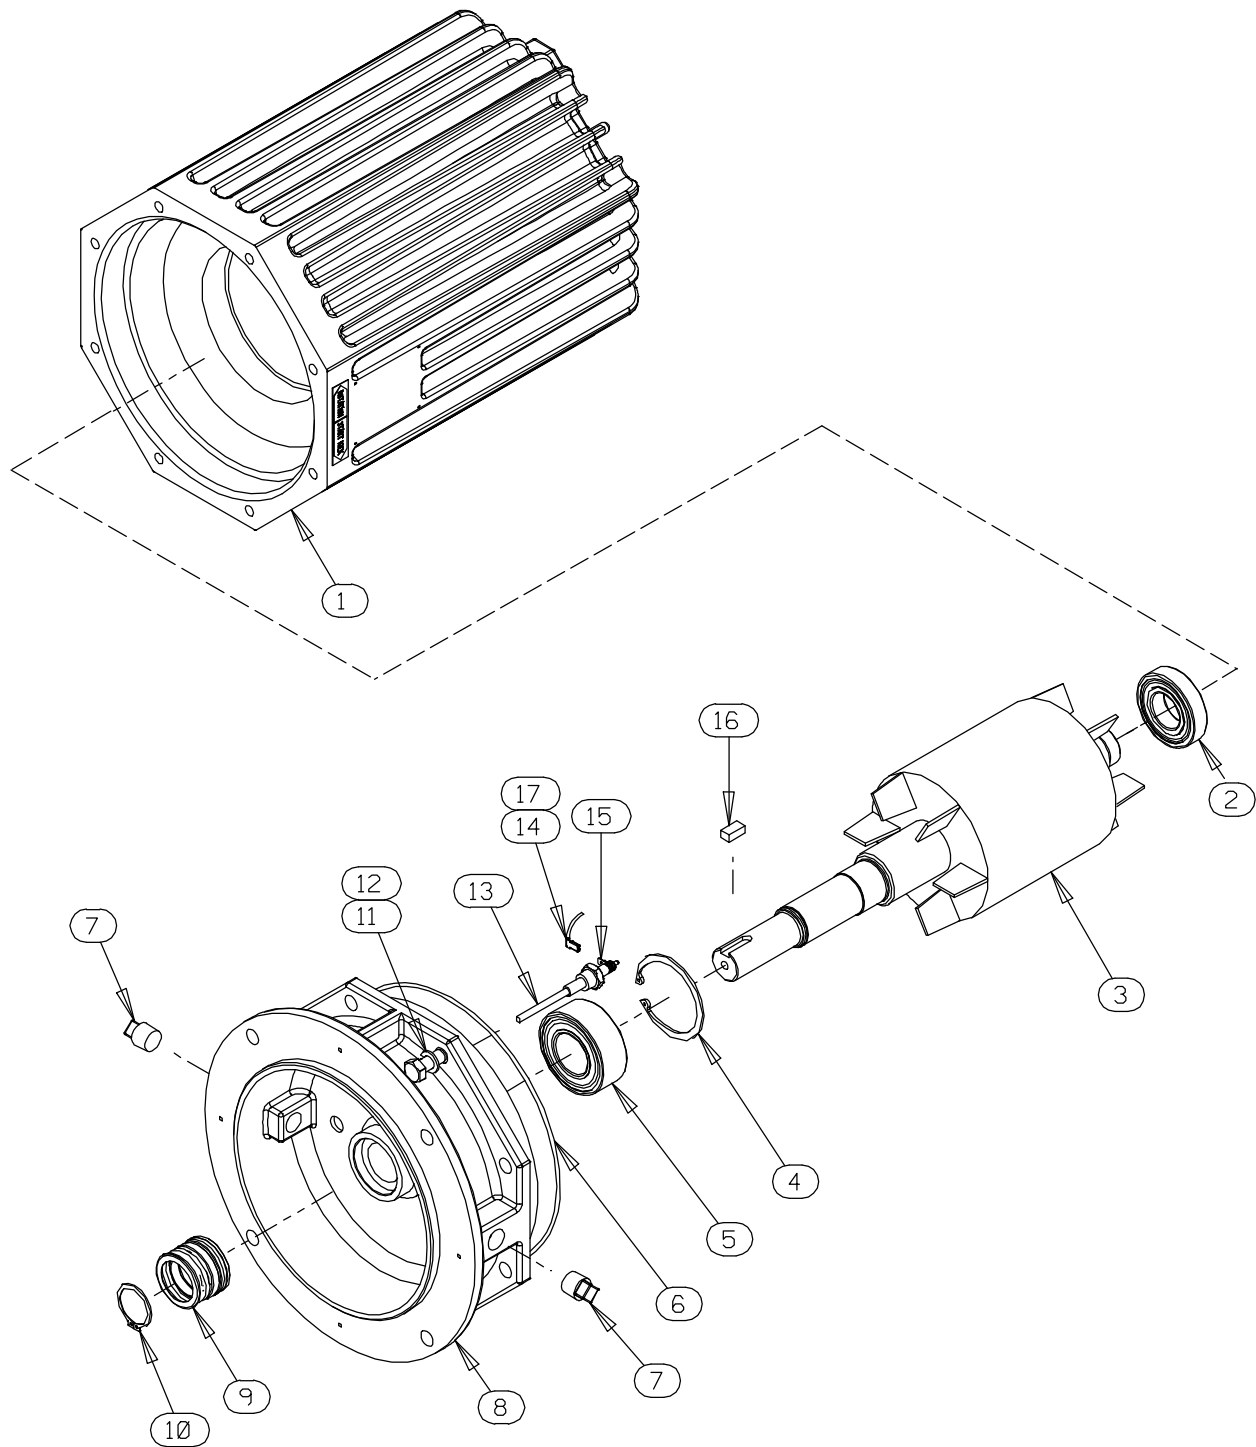

Figure E-2. 47111-810, -811 and -812 Motor Assemblies
(Figure E-2)
To remove the impeller, use two thin-bladed screwdrivers positioned 180° apart to pry on the back of the impeller and “walk” the impeller off the shaft. Use increasingly larger screwdrivers (or wedges) as necessary. After the impeller comes free of the shaft, retain the impeller key (16, Figure E-2).
An alternate method of removing the stationary element is to remove the screws (17) securing the seal plate (15) to the motor assembly (7). Pry the assembled seal plate and stationary element off the shoulder of the intermediate (8, Figure E-2). Remove the O-ring (6) and press the stationary element and seat out of the seal plate from the back side.
(Figures E-2 and E-3)
Inspect the rotor shaft (3, Figure E-2) for damaged threads, scoring, or nicks. Remove nicks and burrs with a fine file or hand honing stone to restore original contours. If the shaft is bent or severely damaged, the rotor and shaft must be replaced as an assembly (see **MOTOR DISASSEMBLY**).